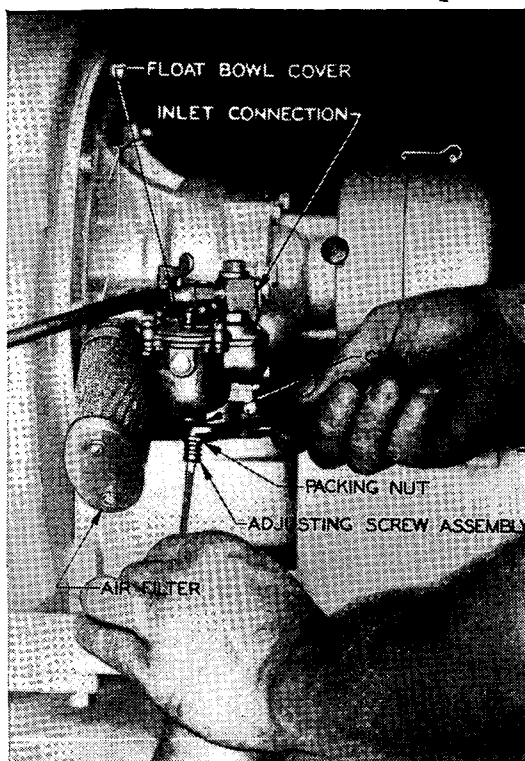

FIGURE 7.—Carburetor adjustment.
c. Carburetor (fig. 7).—Adjustment of the carburetor will be made by ordnance personnel only.
(1) Keep the strainer in the fuel inlet connection on top of the carburetor bowl free from sediment. When this strainer is being inspected, open the fuel line shut-off cock beneath the fuel tank to make certain there is a free flow of fuel to the carburetor.
(2) If fuel does not flow freely, remove the fuel filter sediment bowl beneath the fuel tank and clean the strainer in the top of the bowl.
(3) The carburetor is furnished with a concealed adjusting screw which is properly set at the factory and seldom if ever requires adjustment. In case of carburetor trouble, before changing this adjusting screw setting, make sure that fuel flows freely to the carburetor by inspecting both strainers as explained in (1) and (2) above.
(4) Where adjustment of the carburetor is found necessary the